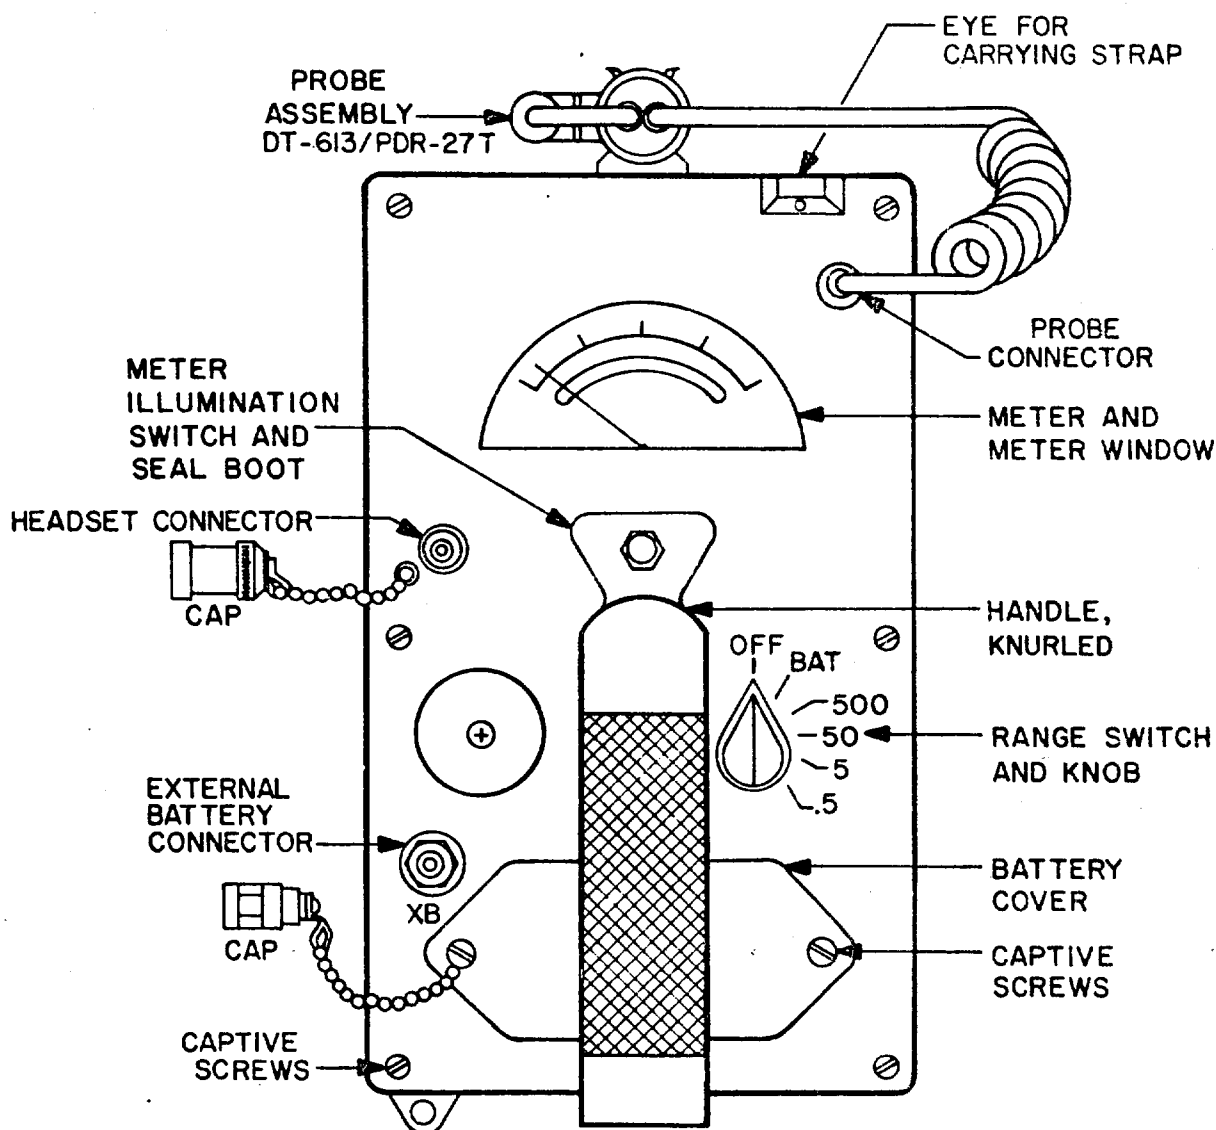

FIGURE 4-1. RADIACMETER IM-238A/PDR-27T, TOP PANEL CONTROLS
e. Carrying Strap P/N A6957. The shoulder harness, an adjustable strap made of non-absorbent plastic, is used for carrying the radiac-meter during operation. Clip fasteners on each end of the strap snap into holes in small projections on the radiacmeter panel (Figure 4-1).
4-2. CONTROLS AND INDICATORS. Figure 4-1 shows the operating controls. A single six position selector switch turns the unit on, provides for battery (BATT) check and selects the 500 mR/hr, 50 mR/hr, 5 mR/hr or .5 mR/hr ranges.